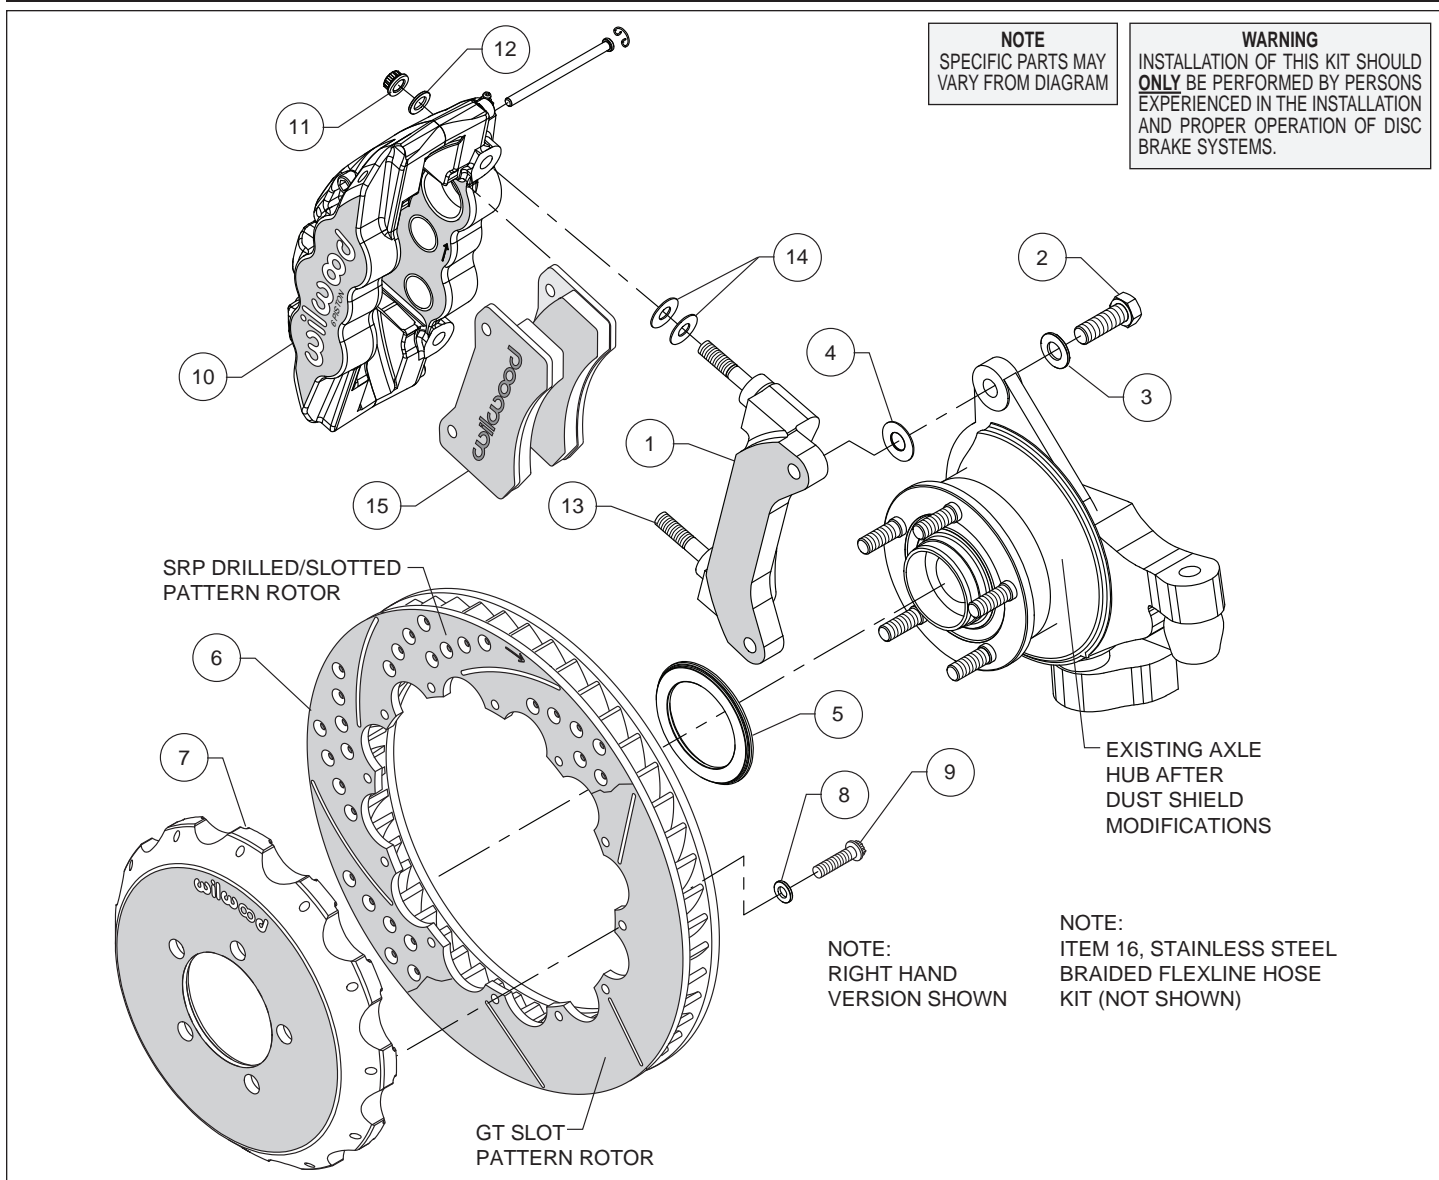
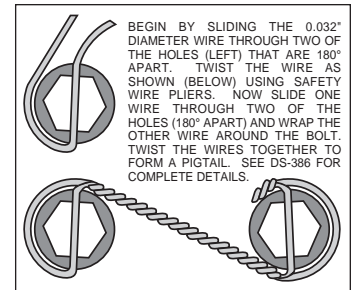

Figure 1. Typical Installation Configuration
Figure 4. Safety Wire Diagram
Assembly Instructions (numbers in parenthesis refer to the parts list and Figure 1 on the preceding pages):
- The caliper mount bracket (1) should initially be installed with clean, dry threads on the mounting bolts. Orient the bracket as shown in Figure 1, and install using washers (3) and bolts (2). Initially place one shim (4) on each bolt between the bracket and upright, Figure 1. Temporarily tighten the mounting bolts. **NOTE:** The bracket must fit squarely against the mount bosses on the upright. Inspect for interference from casting irregularities, machining ridges, burrs, etc. Later, after the caliper alignment has been checked, the mount bolts will be secured using red *Loctite*® 271.
- Orient the rotor (6) and the hat (7) as shown in Figure 1 and Photo 1. Attach rotor to hat using bolts (9) and washers (8). Using an alternating sequence, apply red *Loctite*® 271 to the threads, and torque to 155 **in-lbs**. For an added measure of security, the bolts may be safety wired using standard 0.032 inch diameter stainless steel safety wire as shown in Figure 4. Please refer to Wilwood's data sheet DS-386 (available at www.wilwood.com/Pdf/DataSheets/ds386.pdf) for complete safety wire installation instructions.
- Slide the rotor registration adapter (5) onto the axle register on the axle hub with the smaller O.D. facing outward, Photo 2. Slide the hat/rotor assembly onto the axle hub. **NOTE:** The hat must fit flush against the axle hub flange or excessive rotor run out may result. Install three lug nuts (finger tight) to keep the hat/rotor assembly in place while continuing with the installation.
- NOTE:** This kit contains distinct right and left hand calipers that must be mounted in a specific direction, as described below. Lubricate the caliper mounting studs (13) with lightweight oil. Initially place two .030" thick shims (14) on each stud as shown in Figure 1 and Photo 3. Mount the caliper (10) onto the bracket (1) using lock nuts (11) and washers (12), Figure 1. Ensure that the caliper is mounted so that the largest pistons are at the rotor exit end of the caliper, in relation to the direction of rotor rotation. Temporarily tighten the lock nuts and view the rotor through the top opening of the caliper. The rotor should be centered in the caliper, Photo 4. If not, adjust by adding or subtracting shims (4) between the bracket and the upright. Always use the same amount of shims on each of the two mounting bolts. Once the caliper alignment is correct, remove the bracket mounting bolts (2) one at a time, apply red *Loctite*® 271 to the threads, and torque to 60 ft-lb.
- Remove the two pad retaining pins from the caliper (10) by carefully popping out the pin retaining clips and sliding out the pins. Insert the brake pads (15) into the caliper from the bottom, Figure 1 and Photo 5. With the friction material facing the rotor, secure the brake pads in place with the pad retaining pins and clips, Photo 6. Reinstall the caliper onto the caliper mounting bracket and temporarily tighten the lock nuts. Check that the top of the brake pad is flush with the outside diameter of the rotor, Photo 7. If not, adjust by adding or subtracting shims (14) between the caliper and the bracket. After the caliper pad height is set, torque the caliper lock nuts (11) to 47 ft-lb.